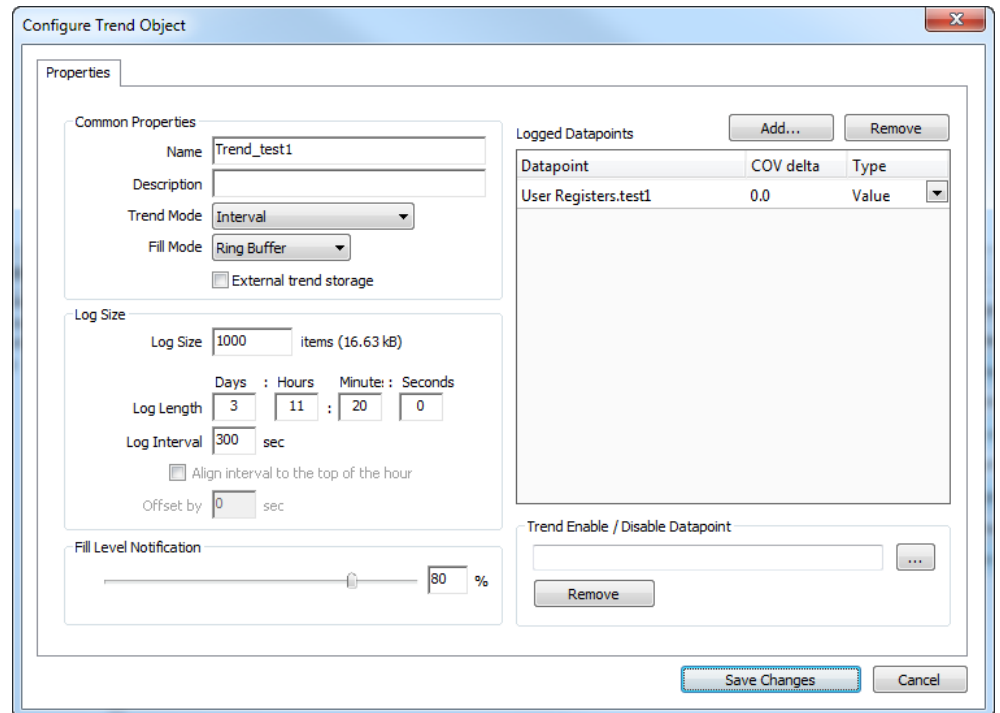

Figure 63: Basic Trend Object Configuration.
3. In the **Create New Trend Object** dialog (shown in Figure 63) enter a name and optionally a description for the trend log object.